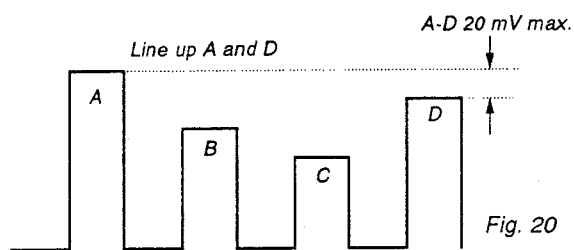

Fig. 20
- 2) Adjust **PHASE NTSC 443 ACC OFF** in the same manner as in 7-5). above. (Fig. 20)